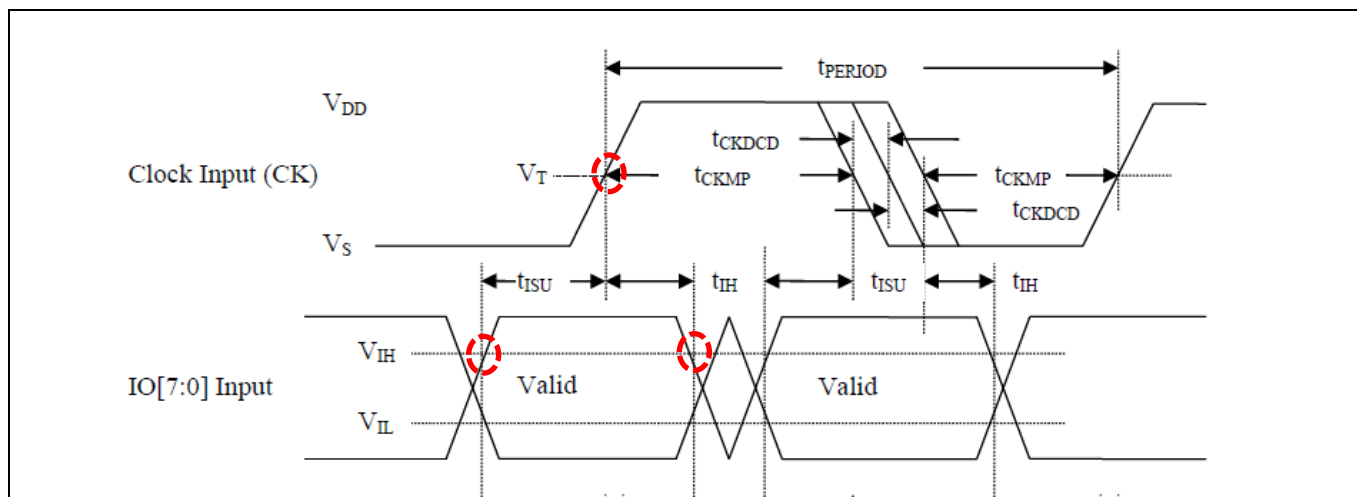
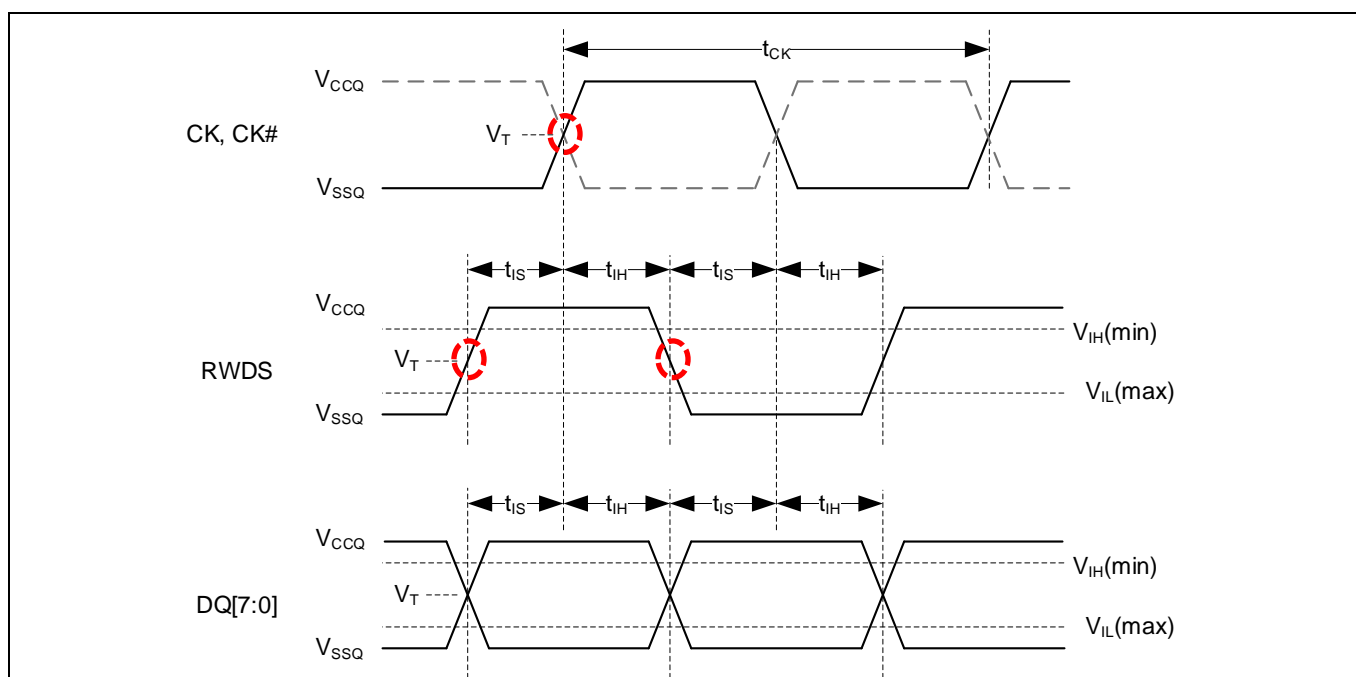

Figure 1 JESD251 input timing diagram
Figure 2 HYPERRAM™ input timing diagram
Table 1 summarizes HYPERRAM™ and JESD251 input timing comparison at 200MHz clock (CK). **Figure 1** and **Figure 2** show the input measurement reference for JESD251 and HYPERRAM™. Key voltage reference levels for the input timing measurement are specified as $V_T = V_{CC}/2$, $V_{IH}/V_{IL} = 70\%/30\%$ of V_{CC} . JESD251 specifies V_{DD} as the IO voltage which is the same as V_{CC}/V_{CCQ} for HYPERRAM™.
As per JESD251 spec, the input measurement reference is V_T of CK to V_{IH}/V_{IL} of IOs, as highlighted in Figure 1.
As per the HYPERRAM™ datasheet, the input measurement reference is V_T of CK to V_T of DQs, as highlighted in Figure 2.
The input measurement reference level for HYPERRAM™ is CK (V_T) to DQ (V_T) while it is CK (V_T) to IO (V_{IH}/V_{IL}) for JESD251, as highlighted in Figure 1 and Figure 2. This section analyzes the input timing compatibility with respect to both measurement references by translating one reference timing to other and compares both the timings at the same reference.